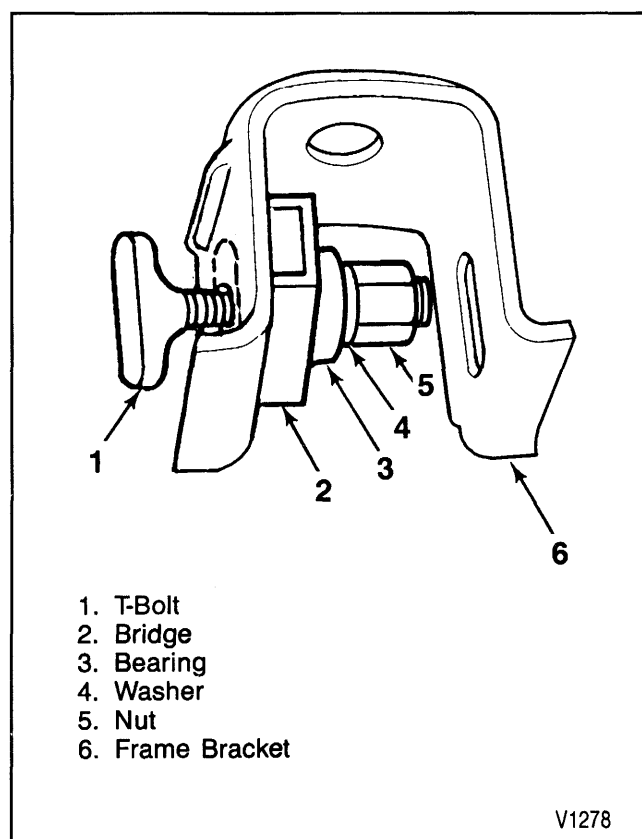

Figure 5—Knockout Tool Installed Inside Bracket
- Install bridge onto T-bolt (figure 5). The forward bracket requires the bridge to be installed between the legs of the bracket due to access problems.
- Install bridge onto the T-bolt (figure 5). The forward bracket requires the bridge to be installed between the legs of the bracket due to access problems.